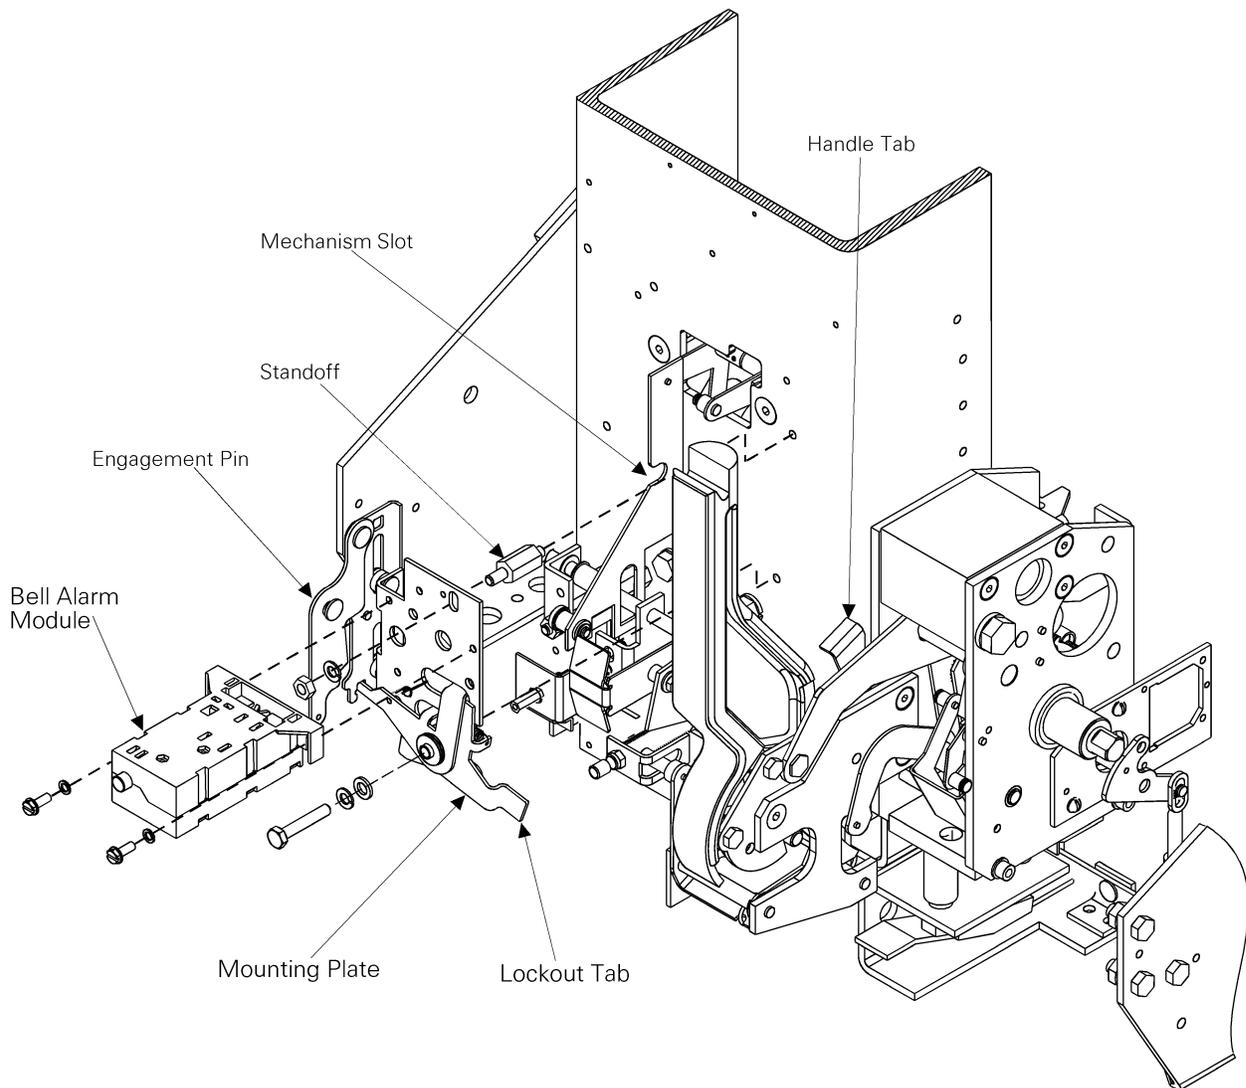
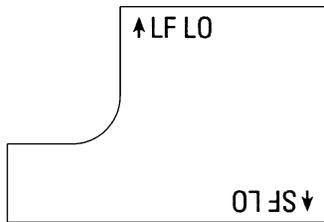

Figure 46. Removing and installing the Bell Alarm with Lockout module and mounting plate.
Figure 48. Orientation of the label on the Bell Alarm with Lockout module.
Use the following procedure to remove the Bell Alarm module and mounting plate, as illustrated in Figure 46. If only the Bell Alarm module is to be replaced, it is not necessary to remove the mounting plate (perform Steps 1 through 3 only.)
Use the following procedure to install the Bell Alarm mounting plate and module, as illustrated in Figure 46. If only the module is to be replaced, begin at step 3.
3. Line up the Bell Alarm module on the mounting plate, as shown in Figure 46, so that the solenoid plunger and locating pin fit in the appropriate holes. The label on the end of the module must appear as in Figure 48, with the legend ↑ LF LO (Large Frame Lockout) horizontal.